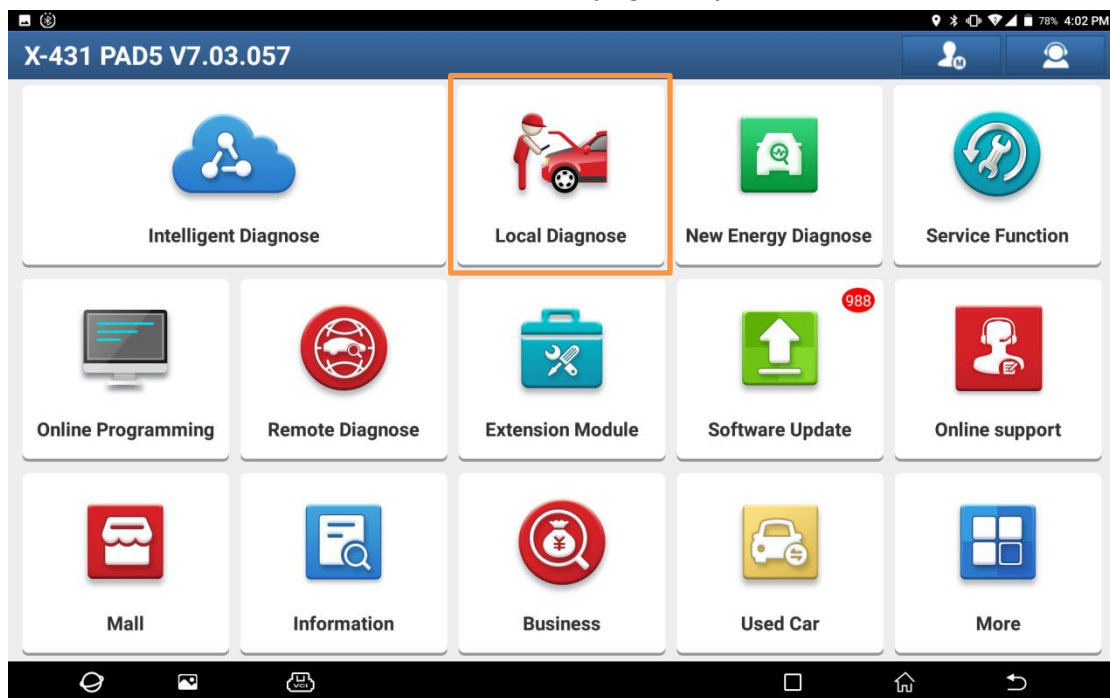
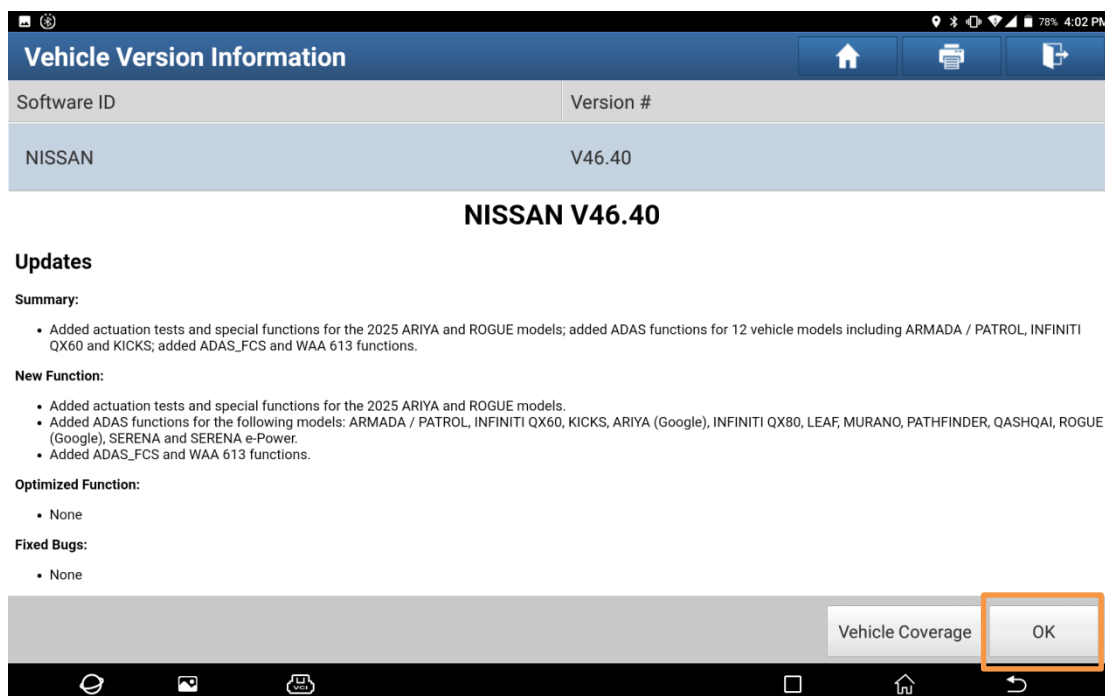
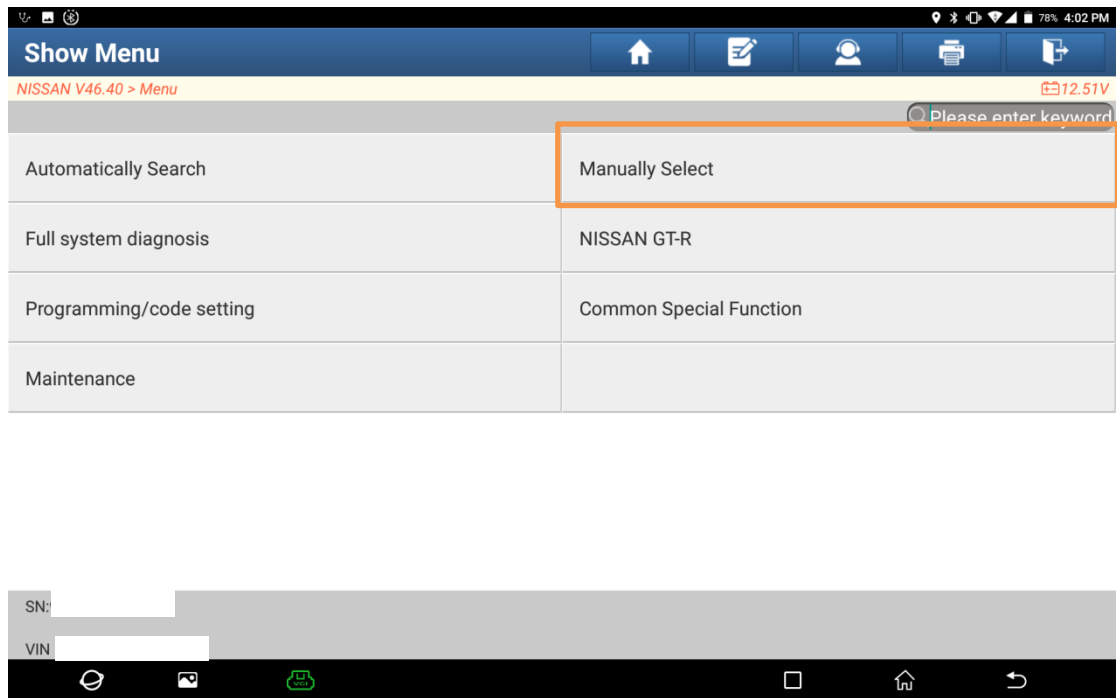

Figure 1
Figure 3
Figure 4
1. On an X-431 PAD 5, follow the steps shown in Figure 1 to Figure 3. Choose [Local Diagnose], choose [NISSAN], and then click "OK" to enter the Nissan vehicle model menu interface (Figure 4).